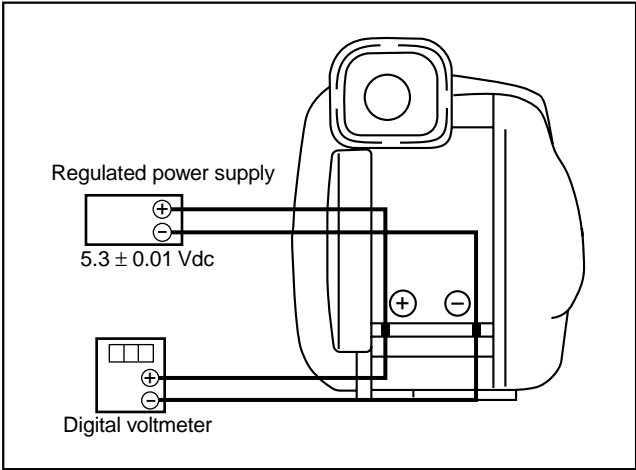

Fig. 5-3-4
- 1) Connect the regulated power supply and the digital voltmeter to the battery terminal as shown in Fig. 5-3-4.